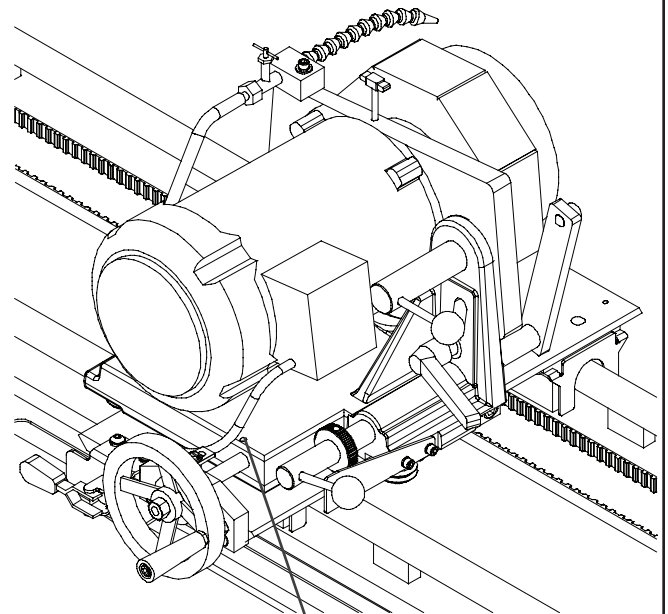

FIG. 6
If there is backlash in the Grinder Head Infeed handwheel (FIG. 6), there are two adjustment points on each to check:
2. Check the nylon ball tension on the adjustment shaft threads at the grinding head slide. See FIG.6. When you turn the handwheel there should be no free play in the handwheel before the grinding head slide moves. If there is free play, tighten the setscrew that pushes the nylon ball against the acme thread of the adjustment shaft. The nylon ball preloads the free play out of the threaded joint between the adjustment shaft and the tooling bar slide block. Apply tension only enough to zero the free play. DO NOT over tension as the adjuster will be difficult to turn.